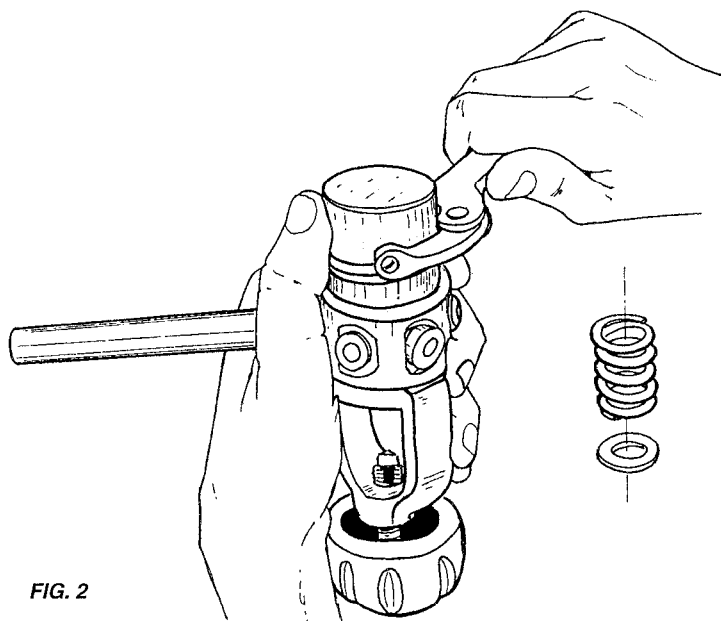

FIG. 2
4. Using a pin wrench (B-23) unscrew cover (85), extract spring (8) and washer (82). (Fig. 2)